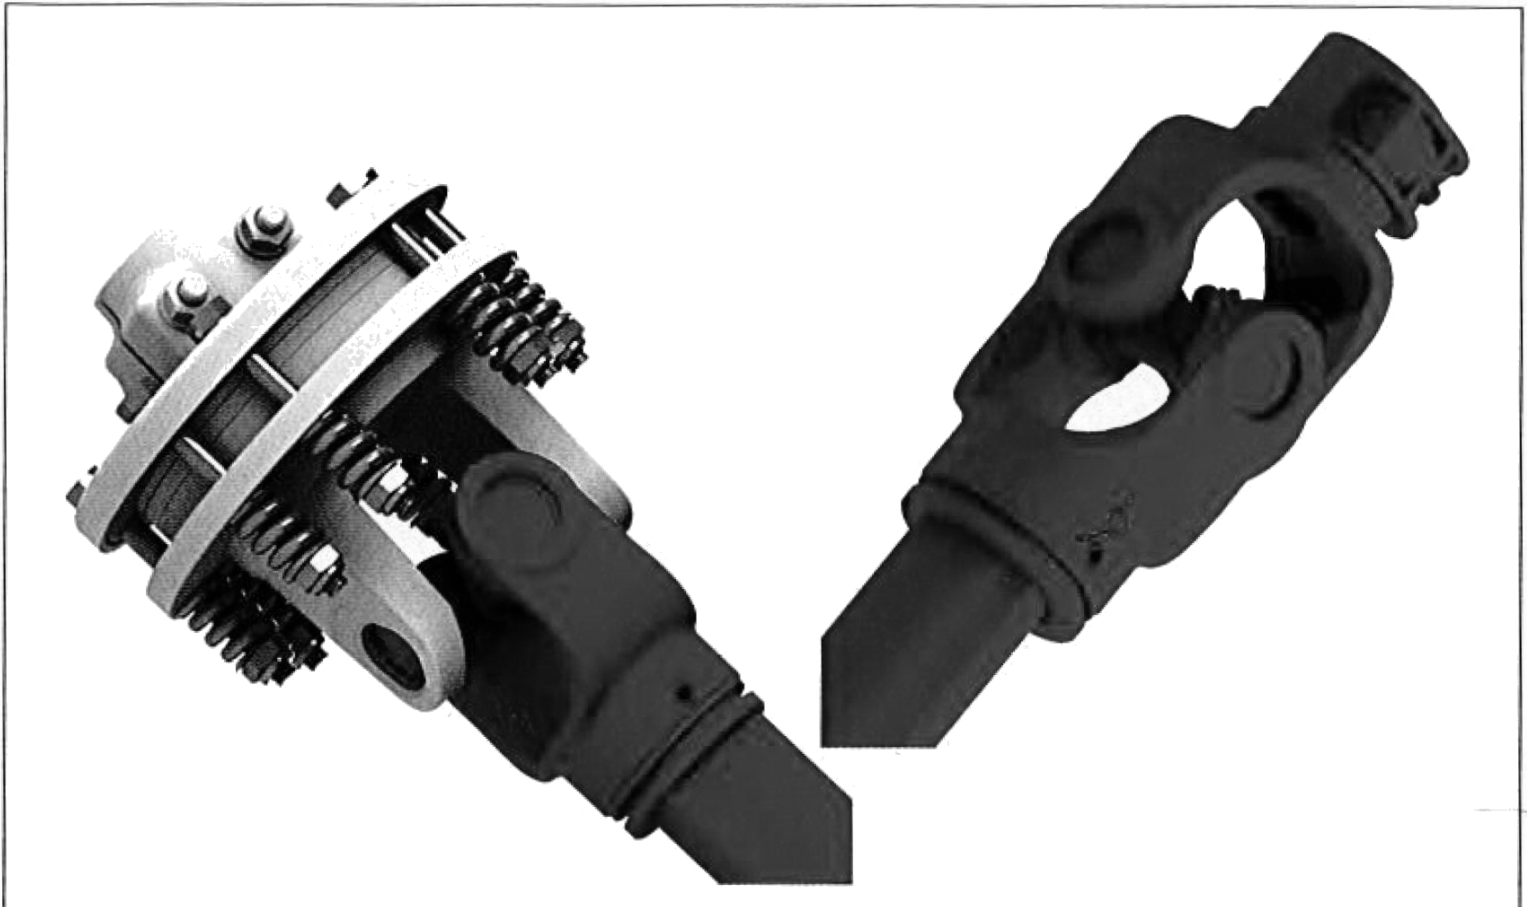

Figure 18 (Step 6)
- 6). Pull outward on the tabs adjacent to the split in the bearing to remove the bearings from either end of the driveline. Please refer to Figure 18, below, for a disassembled driveline.